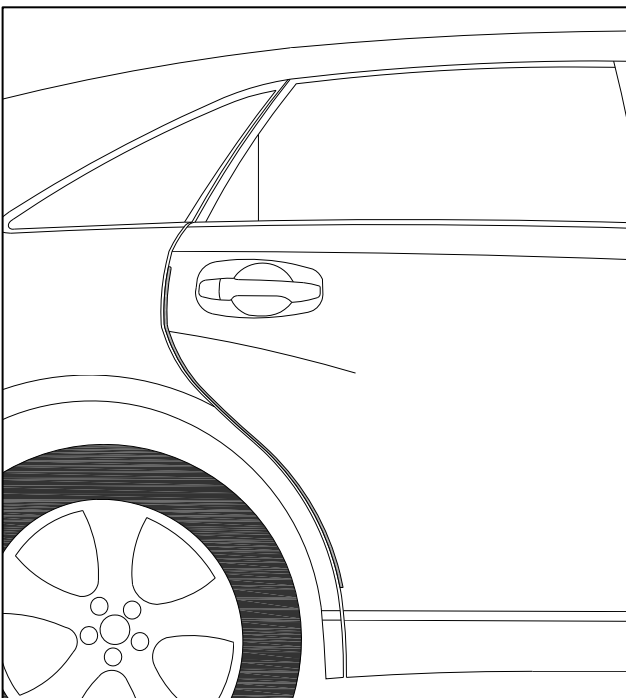

Fig. 1-7
- (j) Carefully close rear door and ensure DEG has sufficient clearance from any adjoining body panel. Carefully remove template from door and retain for use on driver side. (Fig. 1-7)